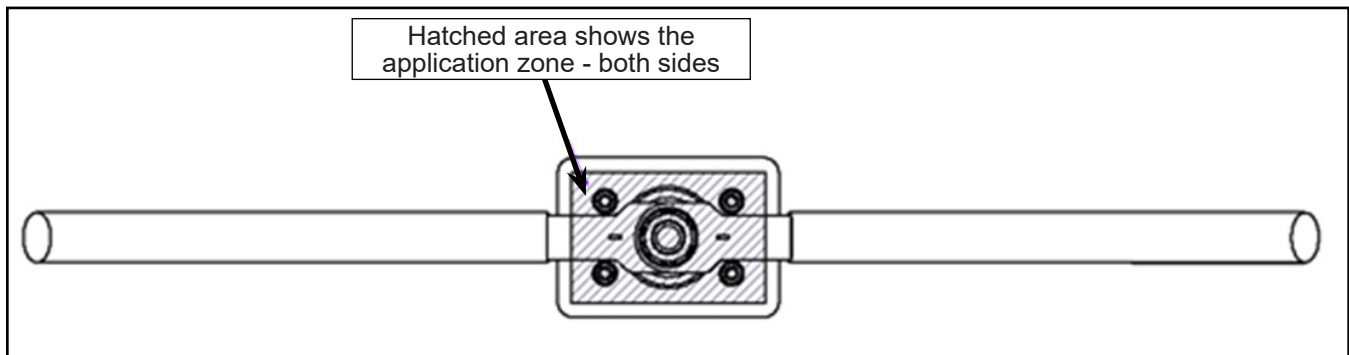

Figure 13 - Junction Block Assembly Showing Corrosion Preventative Product Application Area on Both Sides
- Vaporize the NPCHM00023 cleaner on the surfaces to be covered (see Figure 13), and with a dry cloth clean the surface to remove any unwanted particle and/or grease deposits. Allow the product to evaporate completely.
- 2.19. After the surface cleaning, corrosion preventative product MUST be applied on both sides of the junction block (see Figure 13).